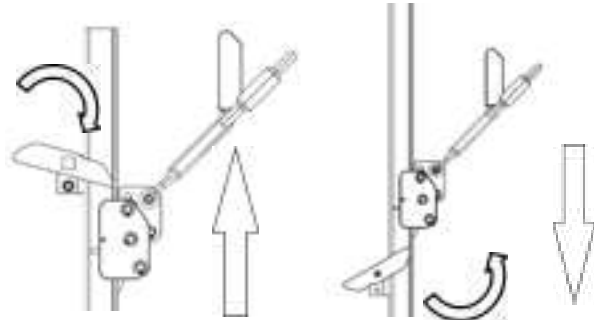

Fig. 18 Exiting the climbing arrester system
1. From the secured position, hold the guided type fall arrester on the shackle (1) and on the base body (2) and swivel the lever of the end stops against the direction of action (Fig. 18) so that the guided type fall arrester can pass over the position of the end stops and be guided out of the arrester rail.